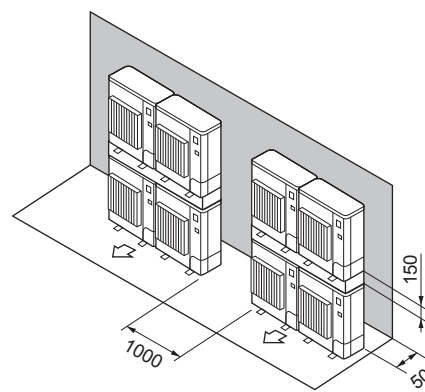

Fig. 3-18
- ⑦ Stacked unit arrangement (Fig. 3-18)